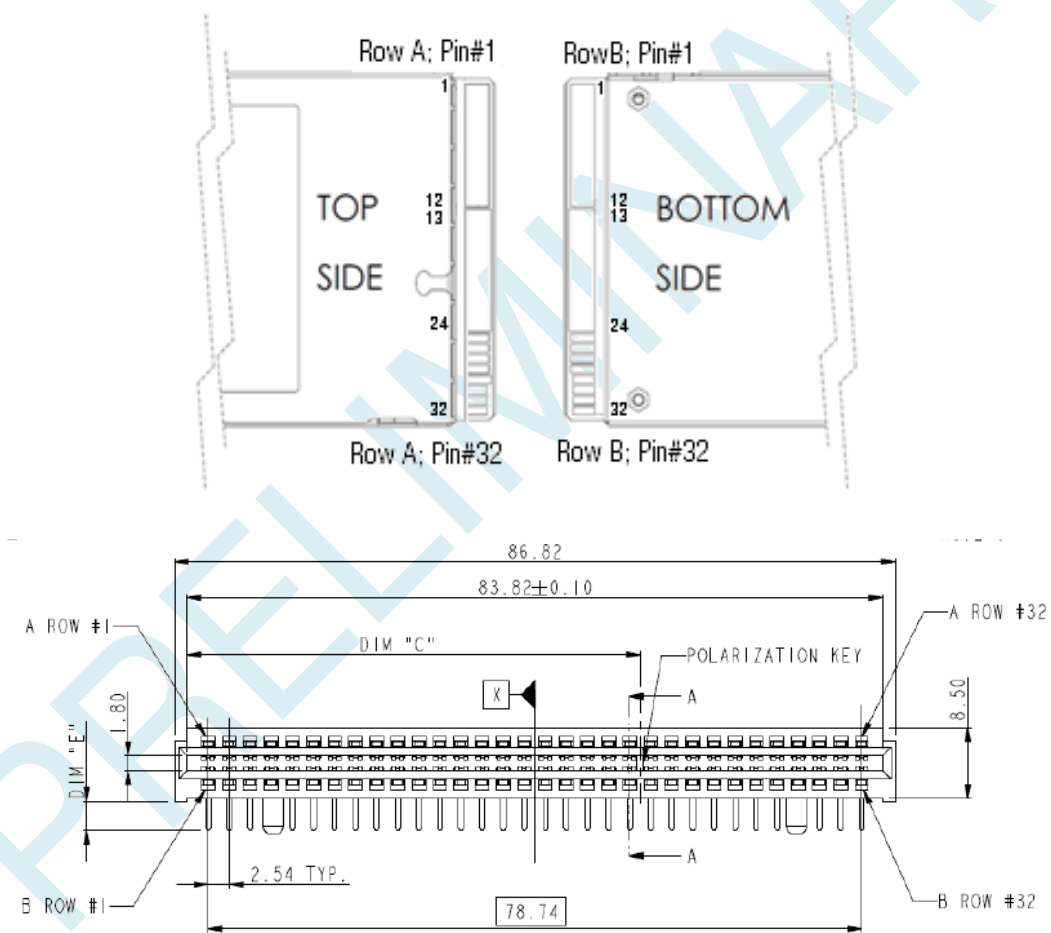

Figure 24. Mating output connector
**NOTE:** For Mating output connector FCI 10053363-200LF or 10046971-001LF Pin assignment see Figure 24